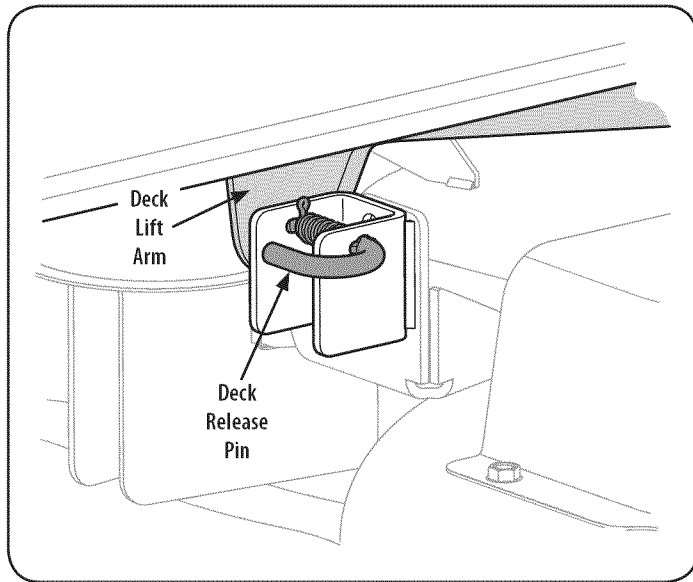

Figure 32
8. Locate the LH and RH deck release pins on each side of the deck. Pull the release pins outward and release the deck from the LH and RH deck lift arms. See Figure 32.
4. Pull the deck release pins outward and maneuver the deck as necessary to align the holes in the deck lift arms with the pins. Refer to Figure 32.